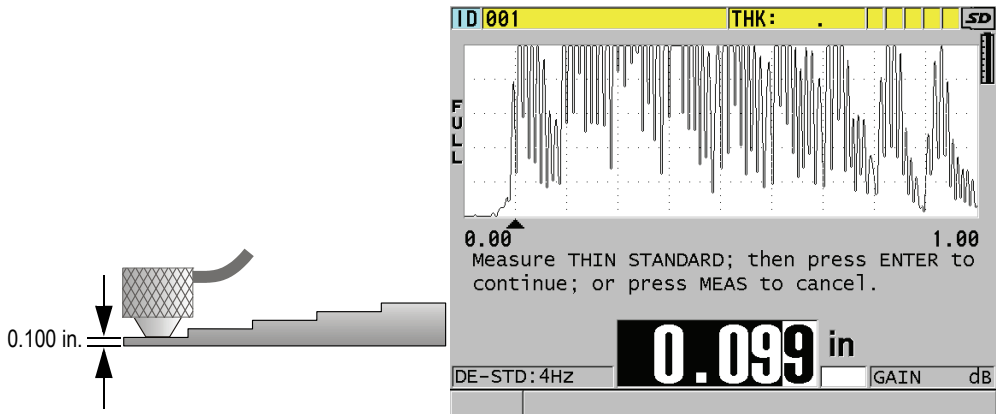

Figure 5-5 Performing the zero calibration on a 5-step test block
2. To perform the zero calibration (see Figure 5-5 on page 63):